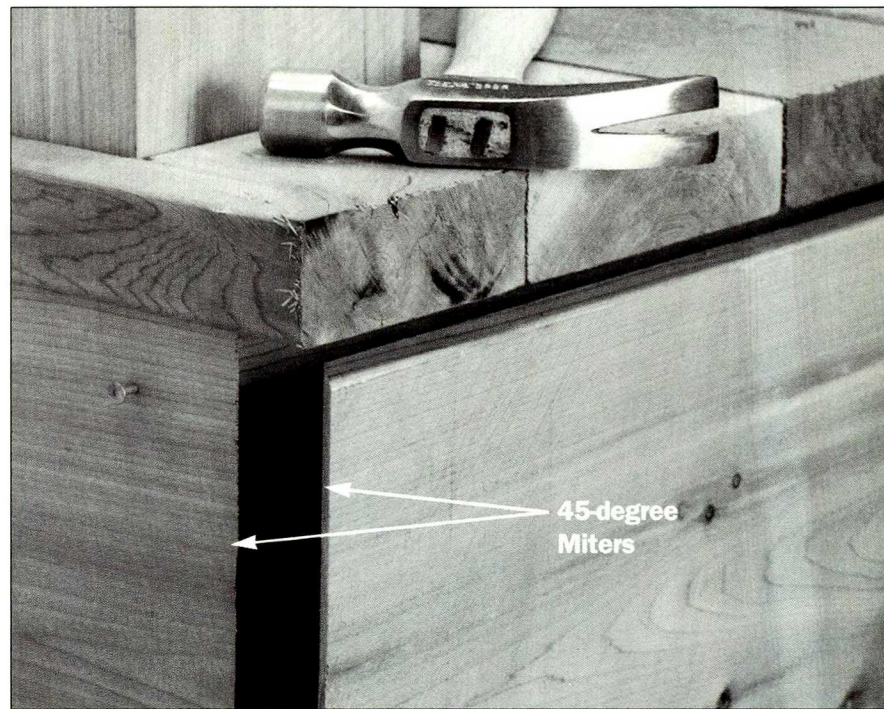

Figure 2: Miter cuts need to be accurate. Make the most difficult angle cuts first. This technique requires a little practice.
- In these steps, the preservative-treated framing material is covered with $\frac{7}{8}$ -inch cedar trim boards. A miter joint will look much better than a butt joint, which shows the end grain. Since this technique requires practice, leave enough board for a second try (Figure 2).